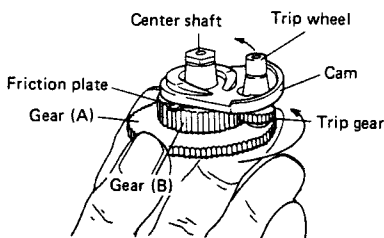

Fig. 4-2 Gear cluster
2. The gear cluster is shown in Fig. 4-2. When the cam is held immovable and gear (A) is rotated in a counterclockwise direction, a small amount of friction is felt, but gear (B) and trip gear also rotate. Note that rotation of the trip gear also rotates the trip wheel. (Fig. 4-3) Also note that when the cam is free to rotate, friction will cause it to rotate in the same direction as gear (A) and (B).
4. Turn the worm gear by hand imitating what would occur if the START/STOP button were depressed causing the motor to rotate the gear. Worm gear rotation causes gear (A) to rotate, and the gears shown in Fig. 4-2 and 4-3 of item 2 above all turn in a clockwise direction.
6. As the assembly rotates further, the trip wheel and PU plate attached to the tonearm shaft come into contact, creating the same condition as occurred in item 2 where the cam was held in an immovable position. Continued rotation of the trip wheel causes the PU plate attached to the tonearm shaft to turn.